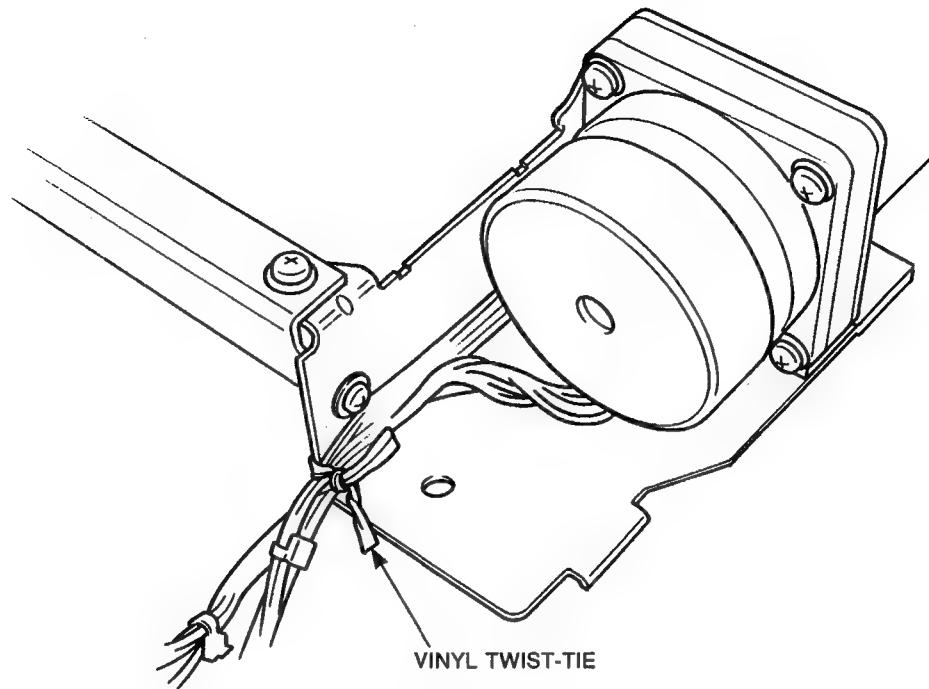

Figure 3-48 Vinyl Twist-Tie
4. Remove the vinyl twist-tie securing the motor cable to the right side frame (see Figure 3-48).